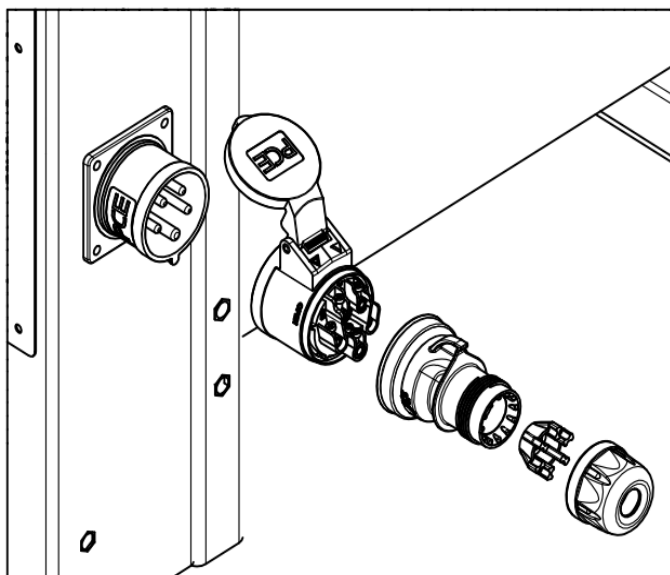

Fig. 3
- Remove the plug (Fig. 3) to fasten the connection cable.